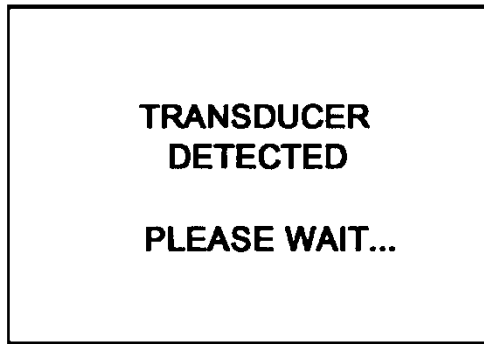

Figure 8
- 13.4.2.3 Verify that the DUT displays the message "'TRANSDUCER DETECTED PLEASE WAIT..." per Figure 8, for approximately 5-10 seconds.